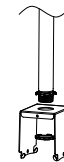

Figure 3
- Step1. Mount the bracket on 3/4"NPT; (Figure 3)